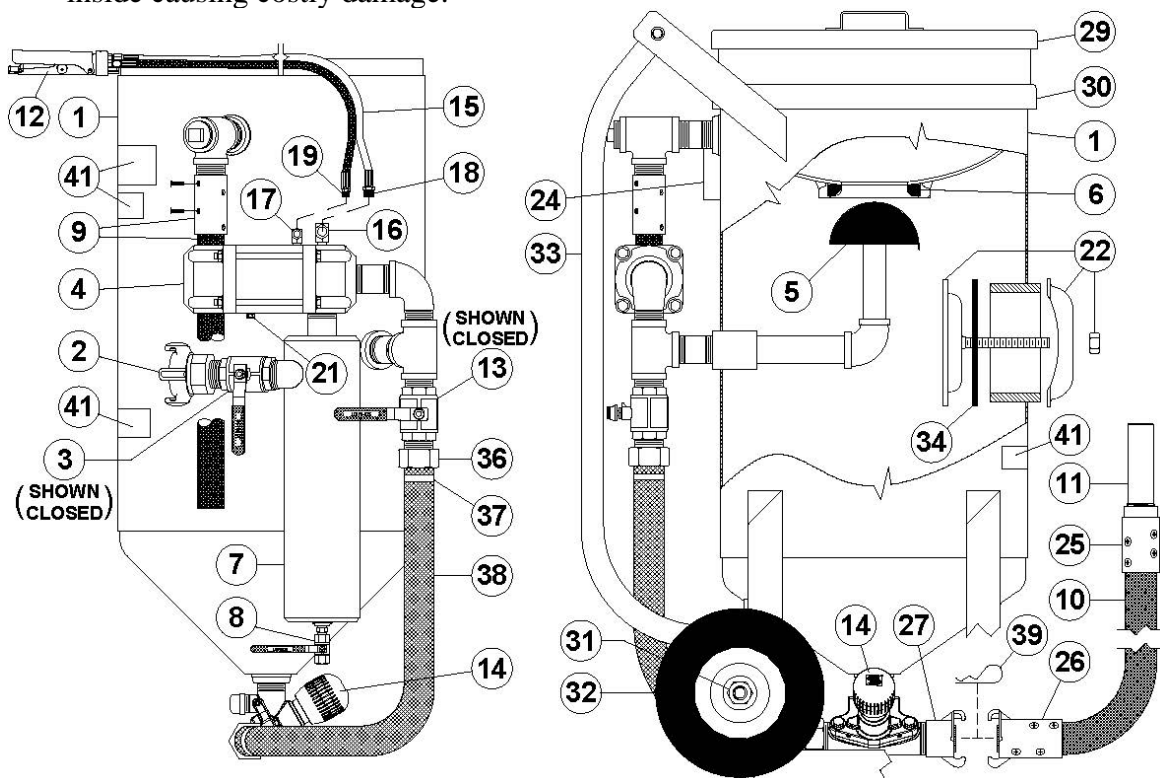

Figure 7.3 – MV2 Valve Abrasive Blaster with pneumatic blast controls
7.3 Ending the Blast Operation (See Figure 7.3)
- 7.3.1. Close the air inlet ball valve (#3). The ball valve is closed when the handle is fully turned to the position shown in Figure 7.3 (handle perpendicular to body). The handle tab will bottom against the ball valve body in the closed position.